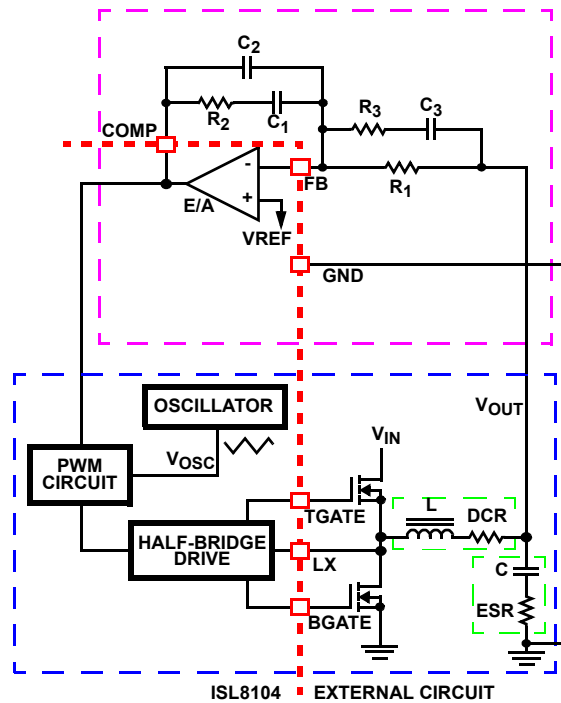

FIGURE 7. VOLTAGE-MODE BUCK CONVERTER COMPENSATION DESIGN
Figure 7 highlights the voltage-mode control loop for a synchronous-rectified buck converter. The output voltage is regulated to the reference voltage level. The error amplifier output is compared with the oscillator triangle wave to provide a pulse-width modulated wave with an amplitude of VIN at the LX node. The PWM wave is smoothed by the output filter. The output filter capacitor bank's equivalent series resistance is represented by the series resistor ESR.
1. Select a value for R1 (1kΩ to 10kΩ, typically). Calculate value for R2 for desired converter bandwidth (F0). If setting the output voltage to be equal to the reference set voltage as shown in Figure 7, the design procedure can be followed as presented in Equation 8.